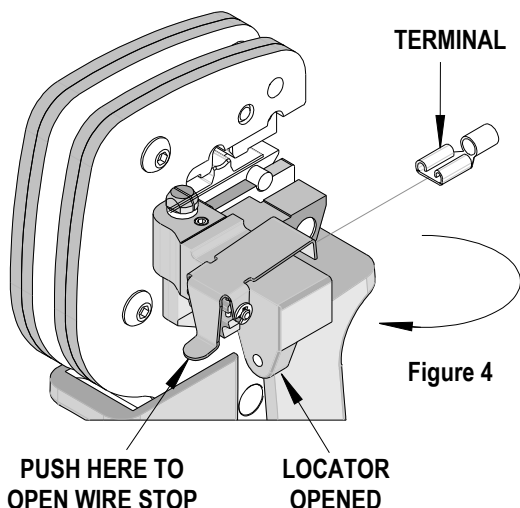

Figure 4
3. Swing the terminal locator away from the crimp tool. The terminal must then be loaded into the locator by pressing down on the wire stop as shown in Figure 4.